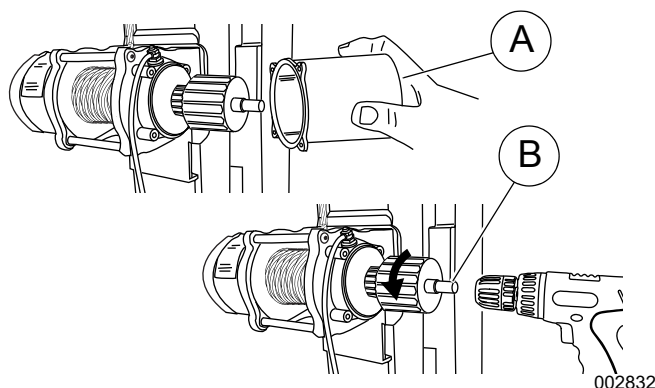

Figure 3-9. Manually Lowering the Mast
1. See Figure 3-9. Remove the motor cover (A).